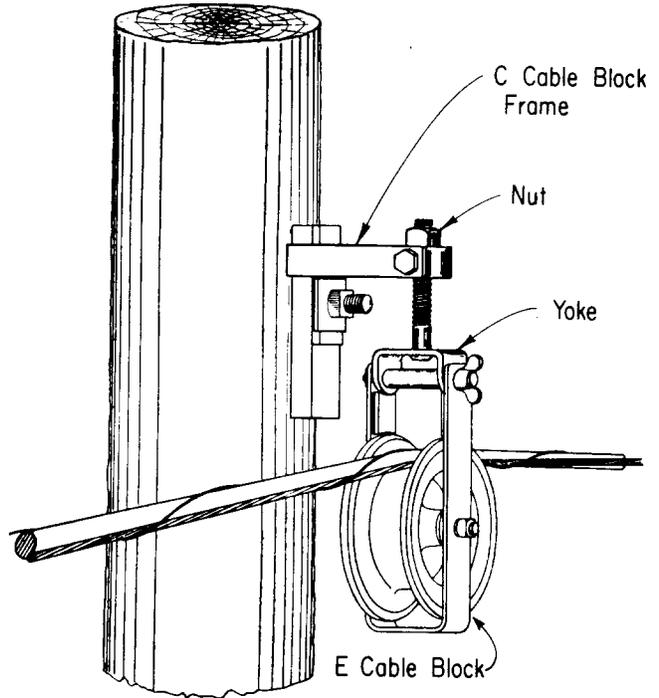

Fig. 9—C Cable Block Frame (With E Cable Block Installed)
6.03 The *C cable block frame* (Fig. 9) is used at in-line poles and corner poles where the pull is less than 3 feet.